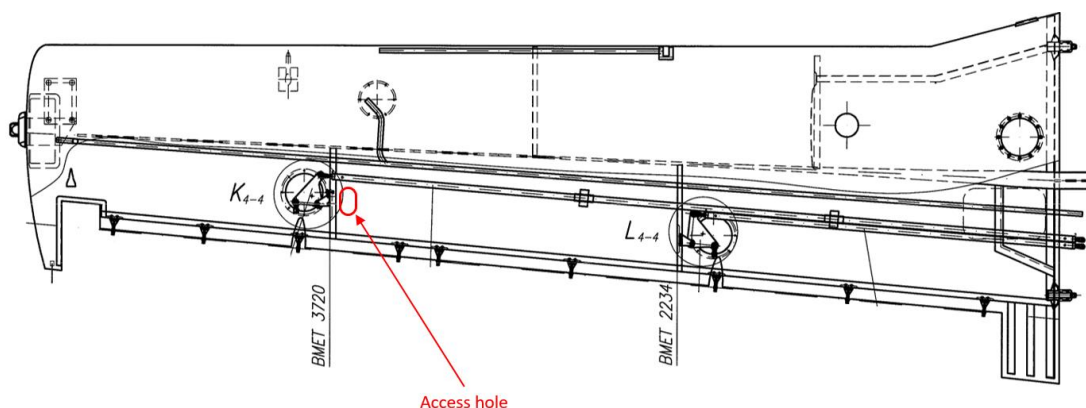

Figure 1: Access Hole Wing, Aileron bell crank attachment bolts (LH shown, RH mirrored)
- 7.1.3 Cut an access hole into the wing surface as small as practical, refer to Figure 1.